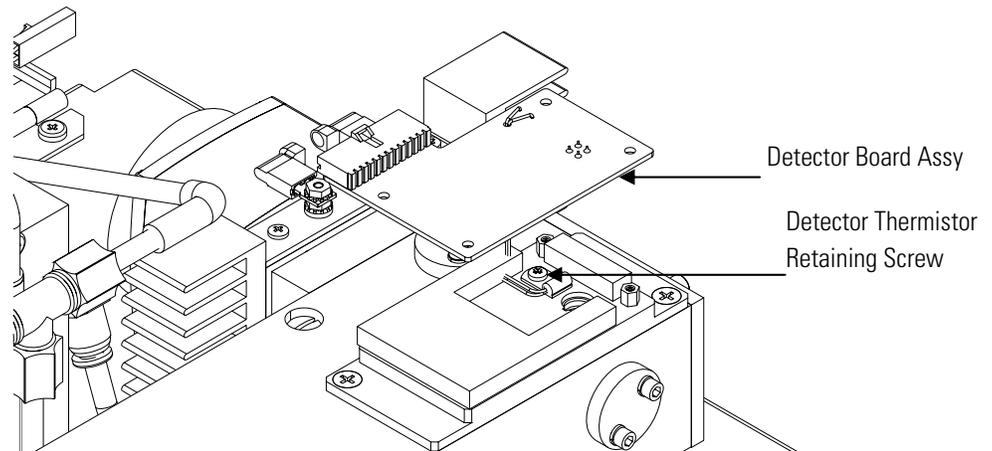

Figure 7-7. Removing the Detector Board Assembly
5. Being careful not to pull the leads off the thermistor or detector, gently pull the detector board assembly straight up to free it from the O-ring seal, position the board to gain access to the thermistor retaining screw, and remove the screw (Figure 7-7).